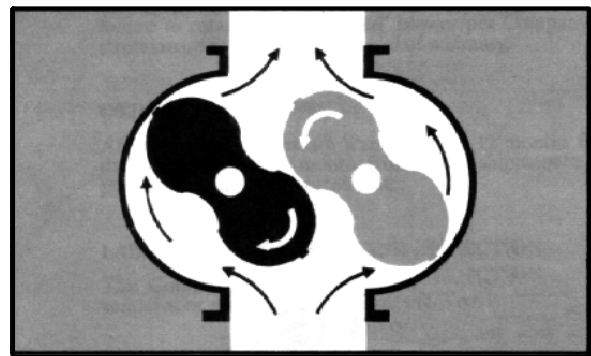

FIGURE 1 - OPERATING PRINCIPLES
**OPERATING PRINCIPLES** - The 4500 Series rotary blowers are the positive displacement type with two figure-eight shaped impellers rotating in opposite directions inside the casing. As each lobe of an impeller passes the blower inlet, it traps a quantity of air equal to exactly one-fourth the displacement of the blower. This trapped air is forced around the case to the blower outlet. Timing gears accurately position the impellers in relation to each other to maintain the minute clearances so vital to the high volumetric efficiency of the rotary positive displacement blower. See FIGURE 1.